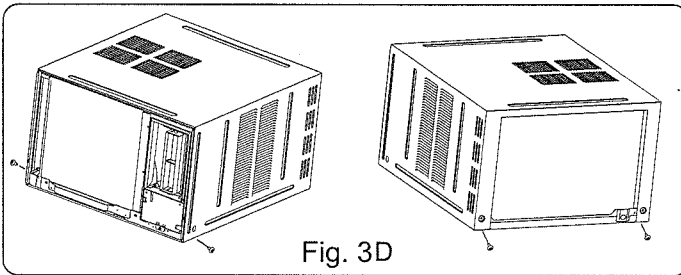

Fig. 3D
- Remove the four screws located on both sides and the back of the cabinet as shown in Fig.3D.